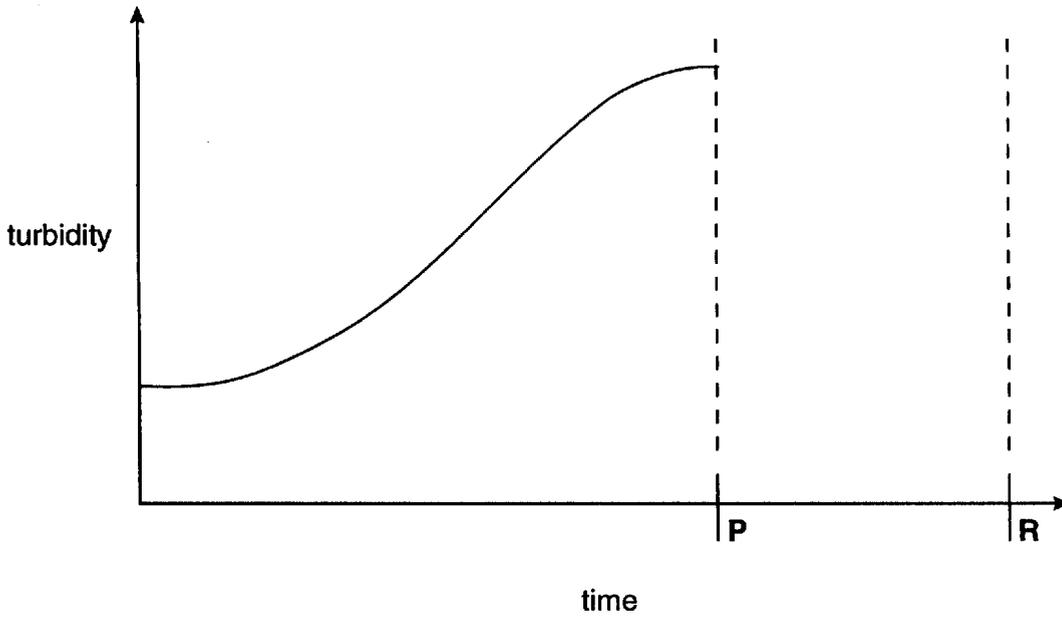

Fig. 4.1
- 4 (a) Yeast cells were added to a culture medium and allowed to grow and reproduce. Samples were removed at regular intervals and the turbidity of each sample was measured. The results obtained are shown Fig. 4.1.
Sketch, on Fig. 4.1, a line to show what would happen to the turbidity between times **P** and **R**. [1]